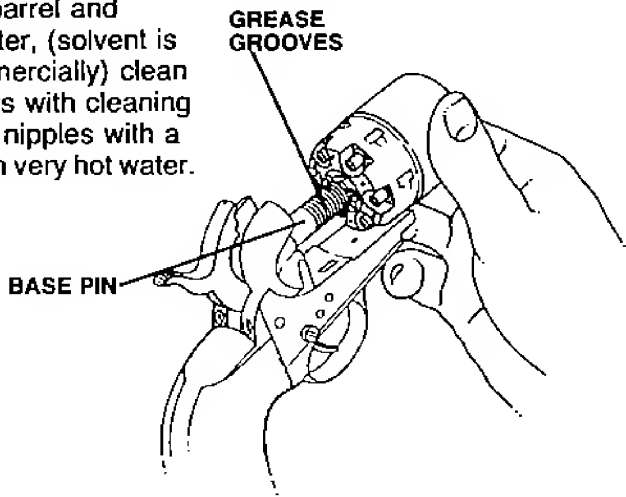

FIGURE 12-REMOVING CYLINDER
10. Liberally grease the base pin. Where grease grooves are provided in the base pin, (See Figure 12) they should be filled with grease.